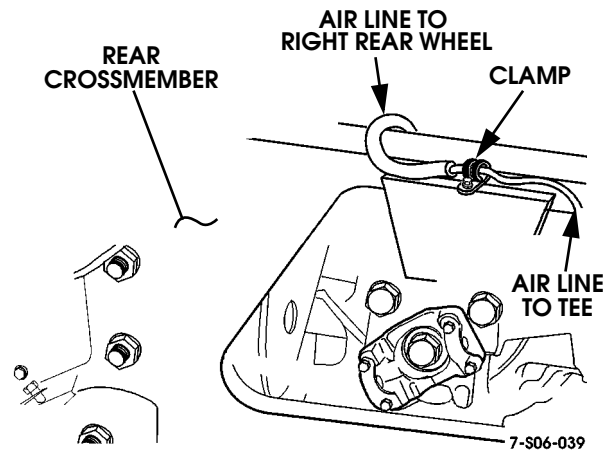

Figure 6-76: Right Rear Line Routing Over Rear Crossmember
3. If working on right rear line, remove clamp over crossmember to remove line (Figure 6-76).
7. If working on right rear line, secure line to crossmember with clamp (Figure 6-76).